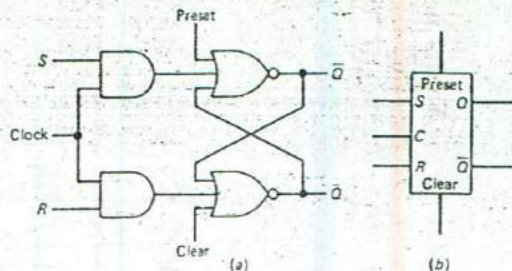

Fig. 11-19 Clocked R - S latch with asynchronous preset and clear. (a) Gate implementation. (b) Symbol. (c) Timing diagram.
It is often desirable to enable a latch only during a specified period of time. Figure 11-19 illustrates a clocked R - S latch with asynchronous preset and clear inputs. Note that Fig. 11-19(a) shows two AND gates at the front end of the latch. These gates share a common input line called the *clock* or *enable* input. It does not matter what is happening at the set and reset inputs if the clock input is low, since all inputs to an AND gate must be high for the output to go high. Study the timing diagram in Fig. 11-19(c). Start at the left, where the latch is initially in the reset condition (Q is low). The clock signal goes high, enabling both inputs. Next, the set input goes high and the latch is set. Then the clock signal goes low. Now a reset pulse comes along, but the latch is not reset because the inputs are disabled. The next reset pulse does reset the latch since it occurs when the clock is high. That time when the clock is high is often referred to as a *window*. Input pulses must be synchronized with the clock window to have any effect on the output; the S and R inputs are considered to be synchronous inputs for this reason. The preset and clear inputs are asynchronous since they can be applied at any time to set or clear the latch. The asynchronous inputs are often used to initialize the circuits to a known condition after power-on.
19. Refer to Fig. 11-19. What will happen if the set and reset inputs race when the clock is at logic 0?